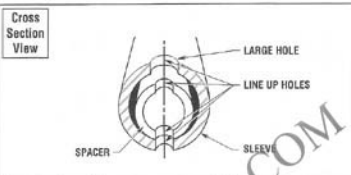

Figure 5-9: Sleeve with spacer.
- To assemble a sleeve/spacer, slide a locking spacer inside the sleeve (see Figure 5-9). (Line up the roll pin holes in the sleeve and spacer so that the larger hole is facing upward).